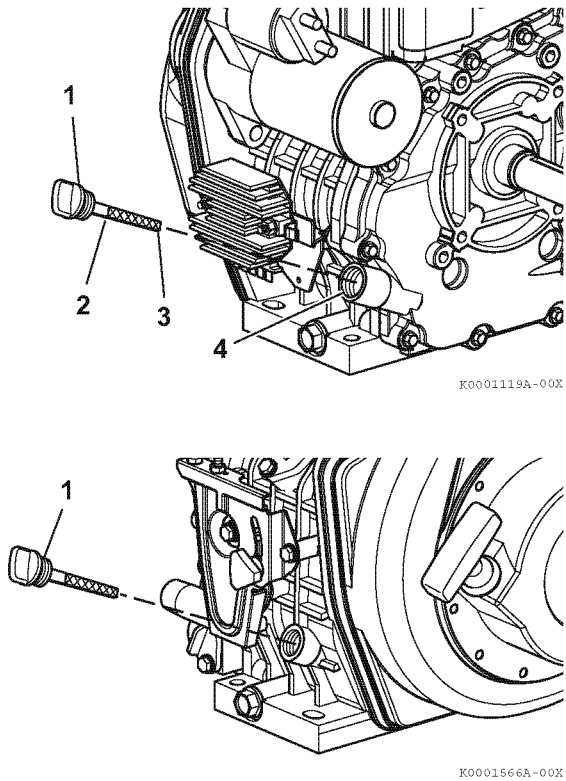

Figure 5-4
10. Add engine oil (4, **Figure 5-4**) as needed until the level is between the upper (2, **Figure 5-4**) and lower lines (3, **Figure 5-4**) on the oil cap/dipstick (1, **Figure 5-4**).
12. Replace the oil cap/dipstick (1, **Figure 5-4**) and tighten by hand. Over-tightening may damage the cap. If any engine oil is spilled, wipe it away with a clean cloth.